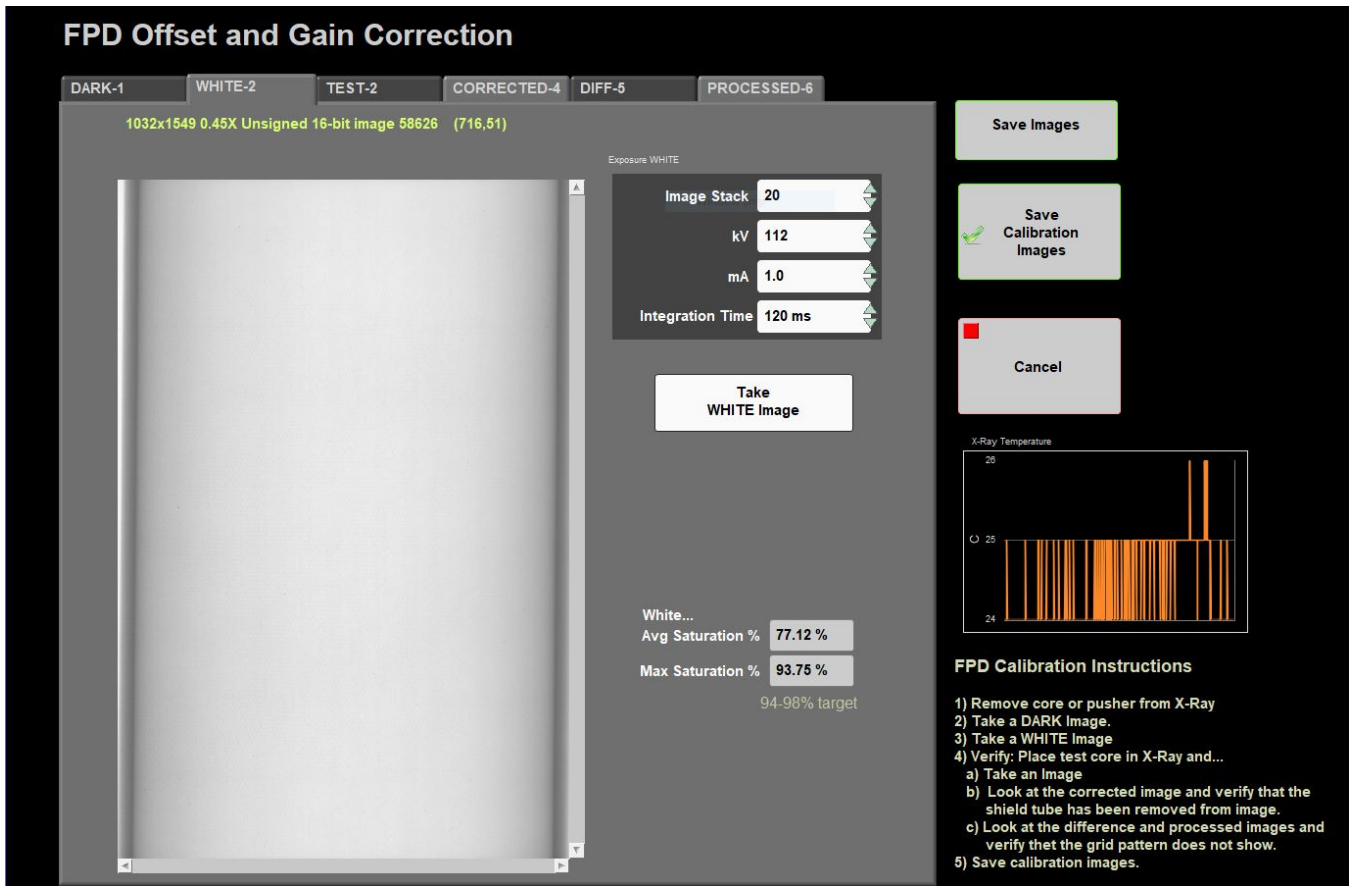

Figure 8. White Image tab in the detector calibration window
1. Select the tab labeled **WHITE-2** (Figure 8).
3. Check the maximum saturation value and confirm that it is in the target range of 94-98%. If not, adjust the exposure values and repeat (Figure 8).